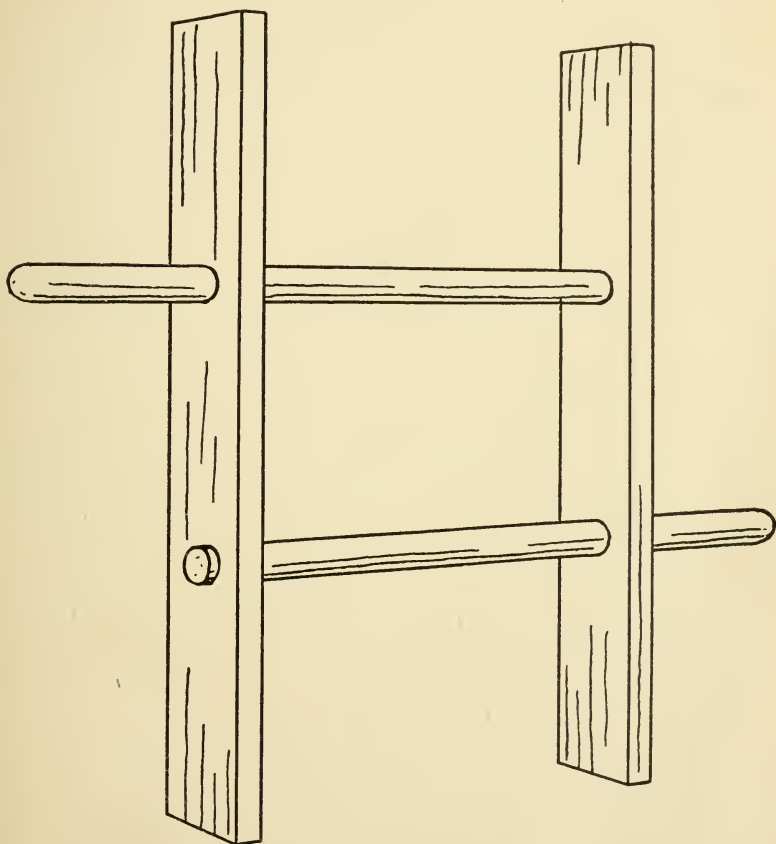

FIG. 45. — A Clothes-line Reel.
**A Clothes-line Reel**, such as shown in Fig. 45, is an article no housekeeper should be without. Its use does away with twisted, tangled, and knotted clothes-lines.
long by three inches wide for the sides, and two pieces of broom-handles sixteen inches long for the horizontal rods (see Fig. 45). Five inches from each end of the side-pieces, bore a hole the size of the broom-handle.